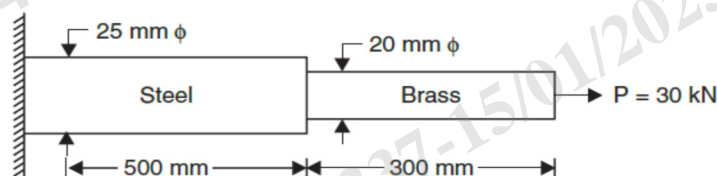

Fig. 1
- The composite bar shown in Fig. 1 is subjected to a tensile force of 30 kN. The extension observed is 0.44. Find the Young's modulus of brass, if Young's modulus of steel is 2×10^5 N/mm².